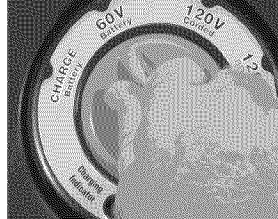

Figure 24 - Select Power
1. Select power input using the power selection dial (see Figure 24).